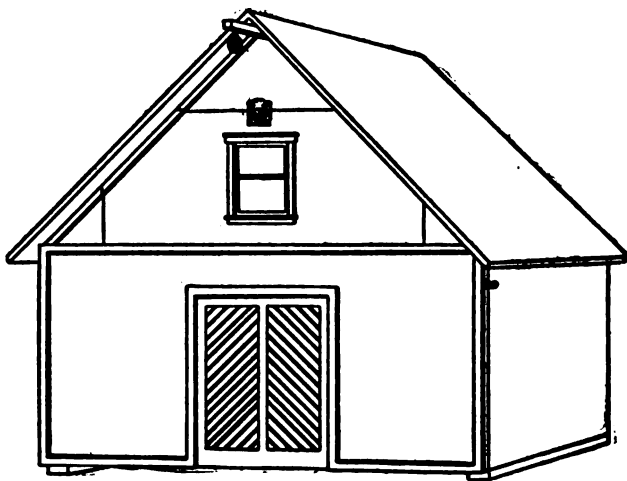

FIG. 238. — Exterior of Stable.
**THE** stable illustrated in Figs. 238 and 239 is designed in keeping with the doll-house in Chapter XIII. It is shown in the background of the photograph of this doll-
A stick about three inches long, with a very small pulley attached near the end, should be fastened in the peak of the roof for a **Feed-Hoist** (see Fig. 238).
**A Drop-Front**, as shown in Figs. 238 and 239. This is made from the box-cover. Fasten the boards together with battens placed upon the inside, and hinge it to the bottom of the stable. Nail two cleats to the under side of the floor (see Fig. 238) to lift it off the ground just enough to allow the front to drop without springing its hinges.
**Represent a Stable Door** on the outside (see Fig. 238). This is done with paint and a fine brush. First paint a green panel in the center of the front, and then mark off a couple of panels within this space with black paint, and stripe them diagonally to represent beaded-boards.